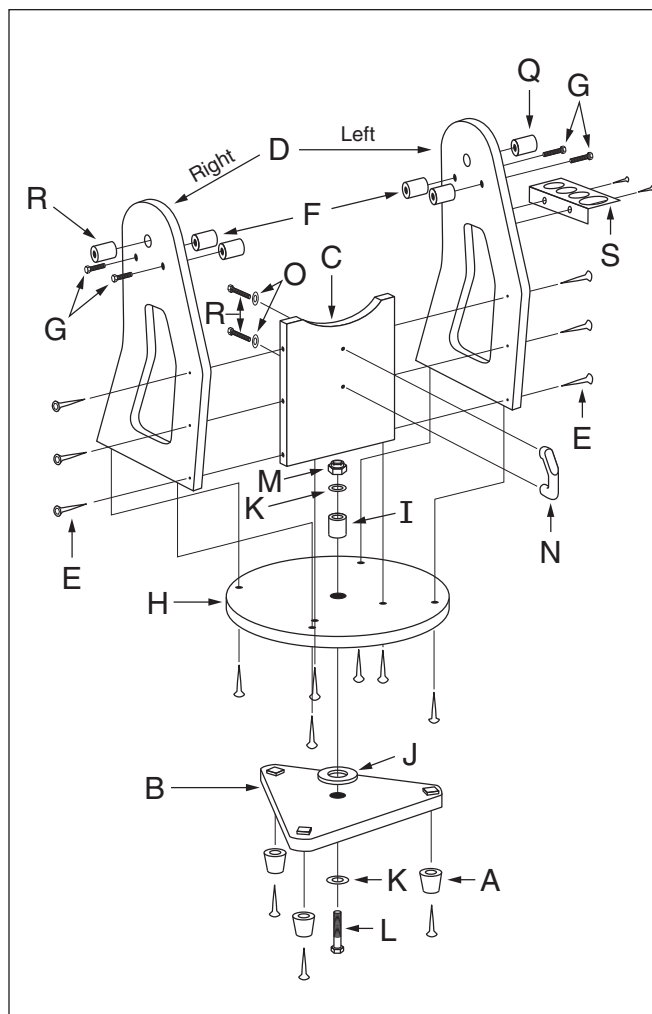

Figure 3. Exploded view of the XT PLUS Dobsonian base assembly.
Refer to **Figure 3** during base assembly. The base needs to be assembled only once, unless you disassemble it for long-term storage. The assembly takes about 30 minutes and requires a Phillips screwdriver, two included crescent wrenches, and the included hex key(s).
9. Put one metal washer (K) onto the hex head bolt (L), then insert the bolt through the bushing in the center of the groundplates from the bottom, as shown in **Figure 3**.